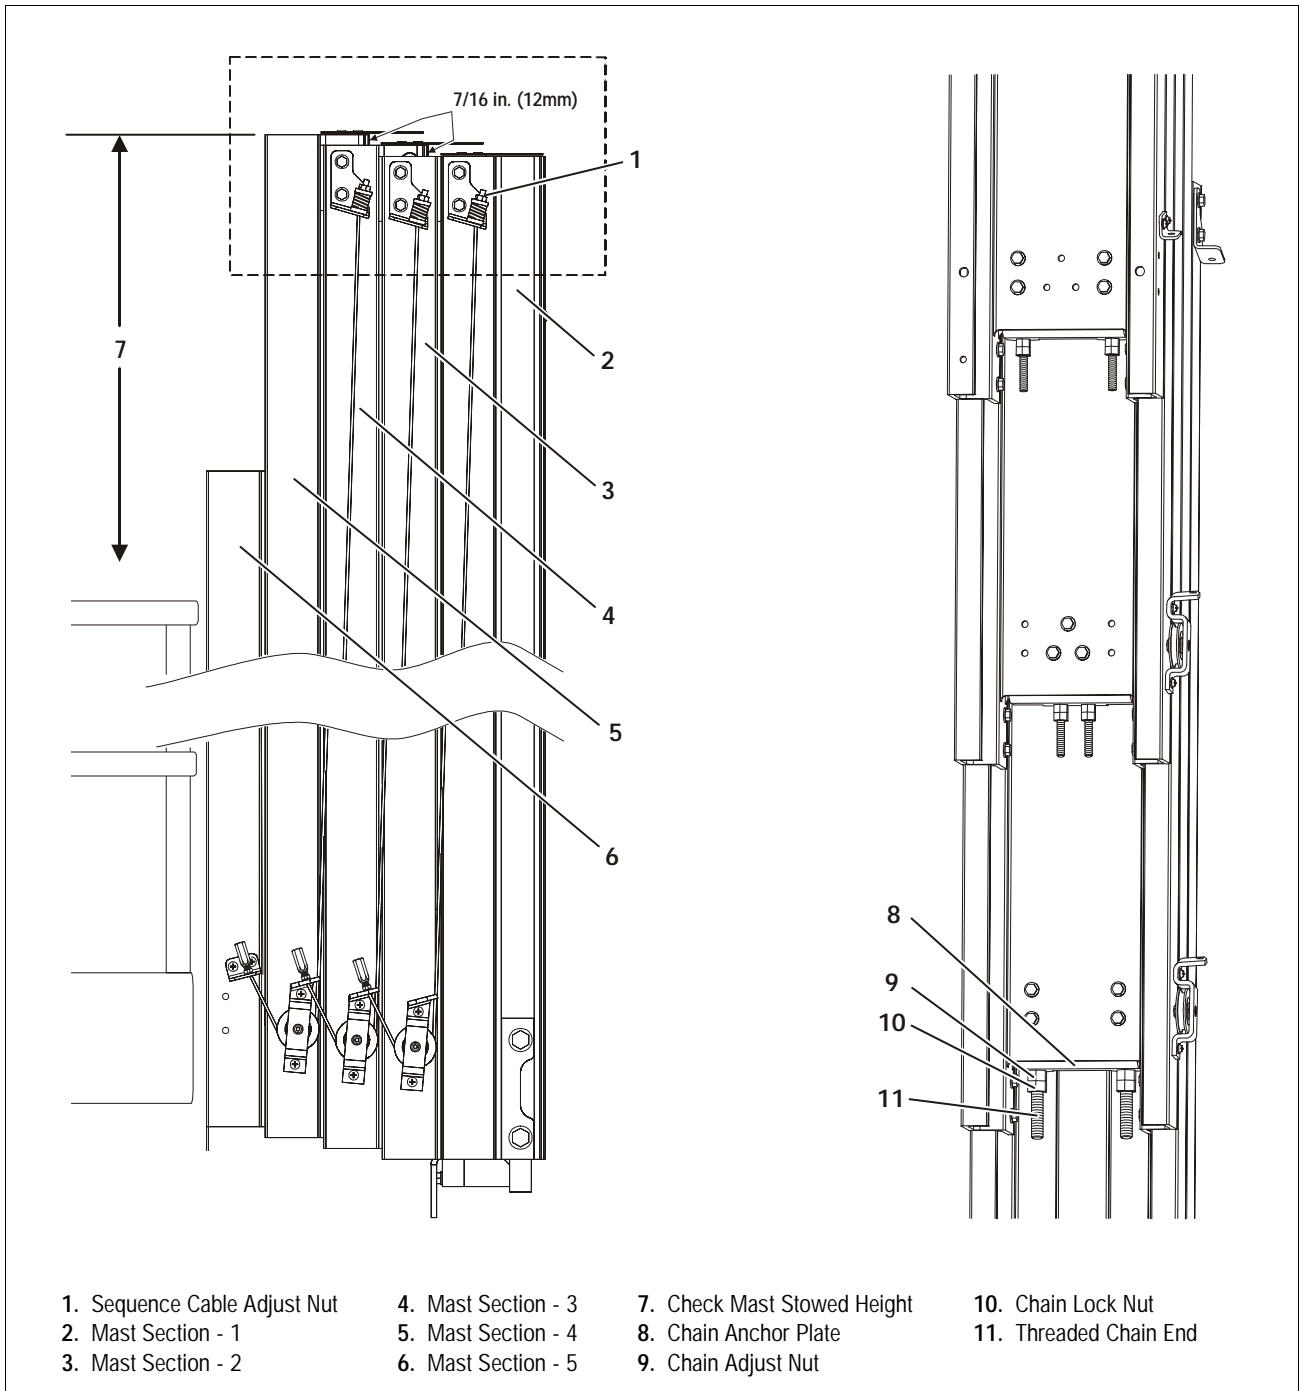

Figure 5-2. DVL/DVSP - Mast Chain and Sequence Cable Adjustment Components.
6. Tighten (to raise mast section), or loosen (to lower mast section) the adjusting nut against the anchor plate on each chain/cable. Adjust the nut the amount required to raise or lower the top of the mast section to match the side profile shown in Figure 5-2. when the mast is retracted.
7. Retract the mast all the way and check if the top of the mast sections appear as shown in Figure 5-2.
8. Repeat steps (1) through (7) for remaining mast sections.
1. Be certain the mast is completely retracted and at the bottom of travel. Check the mast "Side Profile" at the top of the mast as shown in Figure 5-2., adjust mast sections to proper height if necessary.